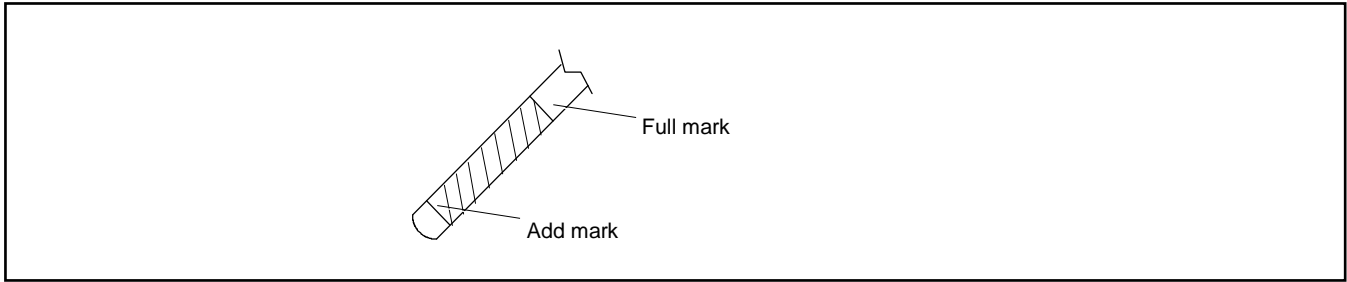

Figure 26 Oil Dipstick
10. Check engine oil level, making sure that the level lies between the Full and Add marks on the dipstick. See Figure 26.